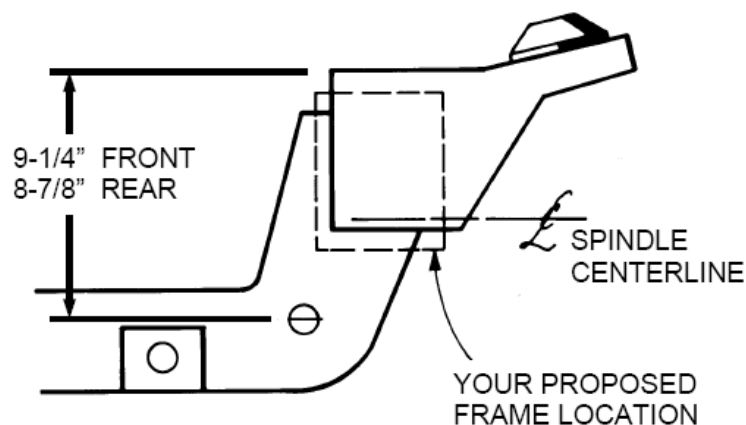

Figure 1- Frame Location & Ride Height
2. Now you must determine the ride height of the front suspension, and actually of the entire car, as the frame must also be set at the correct rake that you intend the finished car to sit. Adjust the height of the frame, or the entire car, to this height, and then support the frame on jack stands with shims at this height. Now check the height of the spindle, again using your set-up wheel, compared to the height of the frame rail, at the axle centerline. Mark the actual spindle centerline height on the side of the frame rail (You may want to subtract 1/4" from the centerline location for flattening of the tires under pressure). If it comes through the wheel below the frame rail, then temporarily tape a piece of cardboard to the side of the rail to mark the centerline on. The bottom of the frame should be no lower than one inch below the spindle and the top not more than four inches above the spindle. As you see, you can adjust the ride height of your car within this range, if your frame is smaller than these dimensions (See **Figure 1**). You can also adjust the position of the crossmember, and the frame, with 2" Dropped Mustang II Spindles, if the frame does not fall within this range. Note that if the frame is more than 1/2" below the spindle, it will need to be C-notched for the rack boots, if you do not use dropped spindles. Also note that if you have a thicker frame, just slice a 12" long section off and box in the top of the frame for the spring tower and upper control arm clearance. The depth of this slice will be determined in a later step.